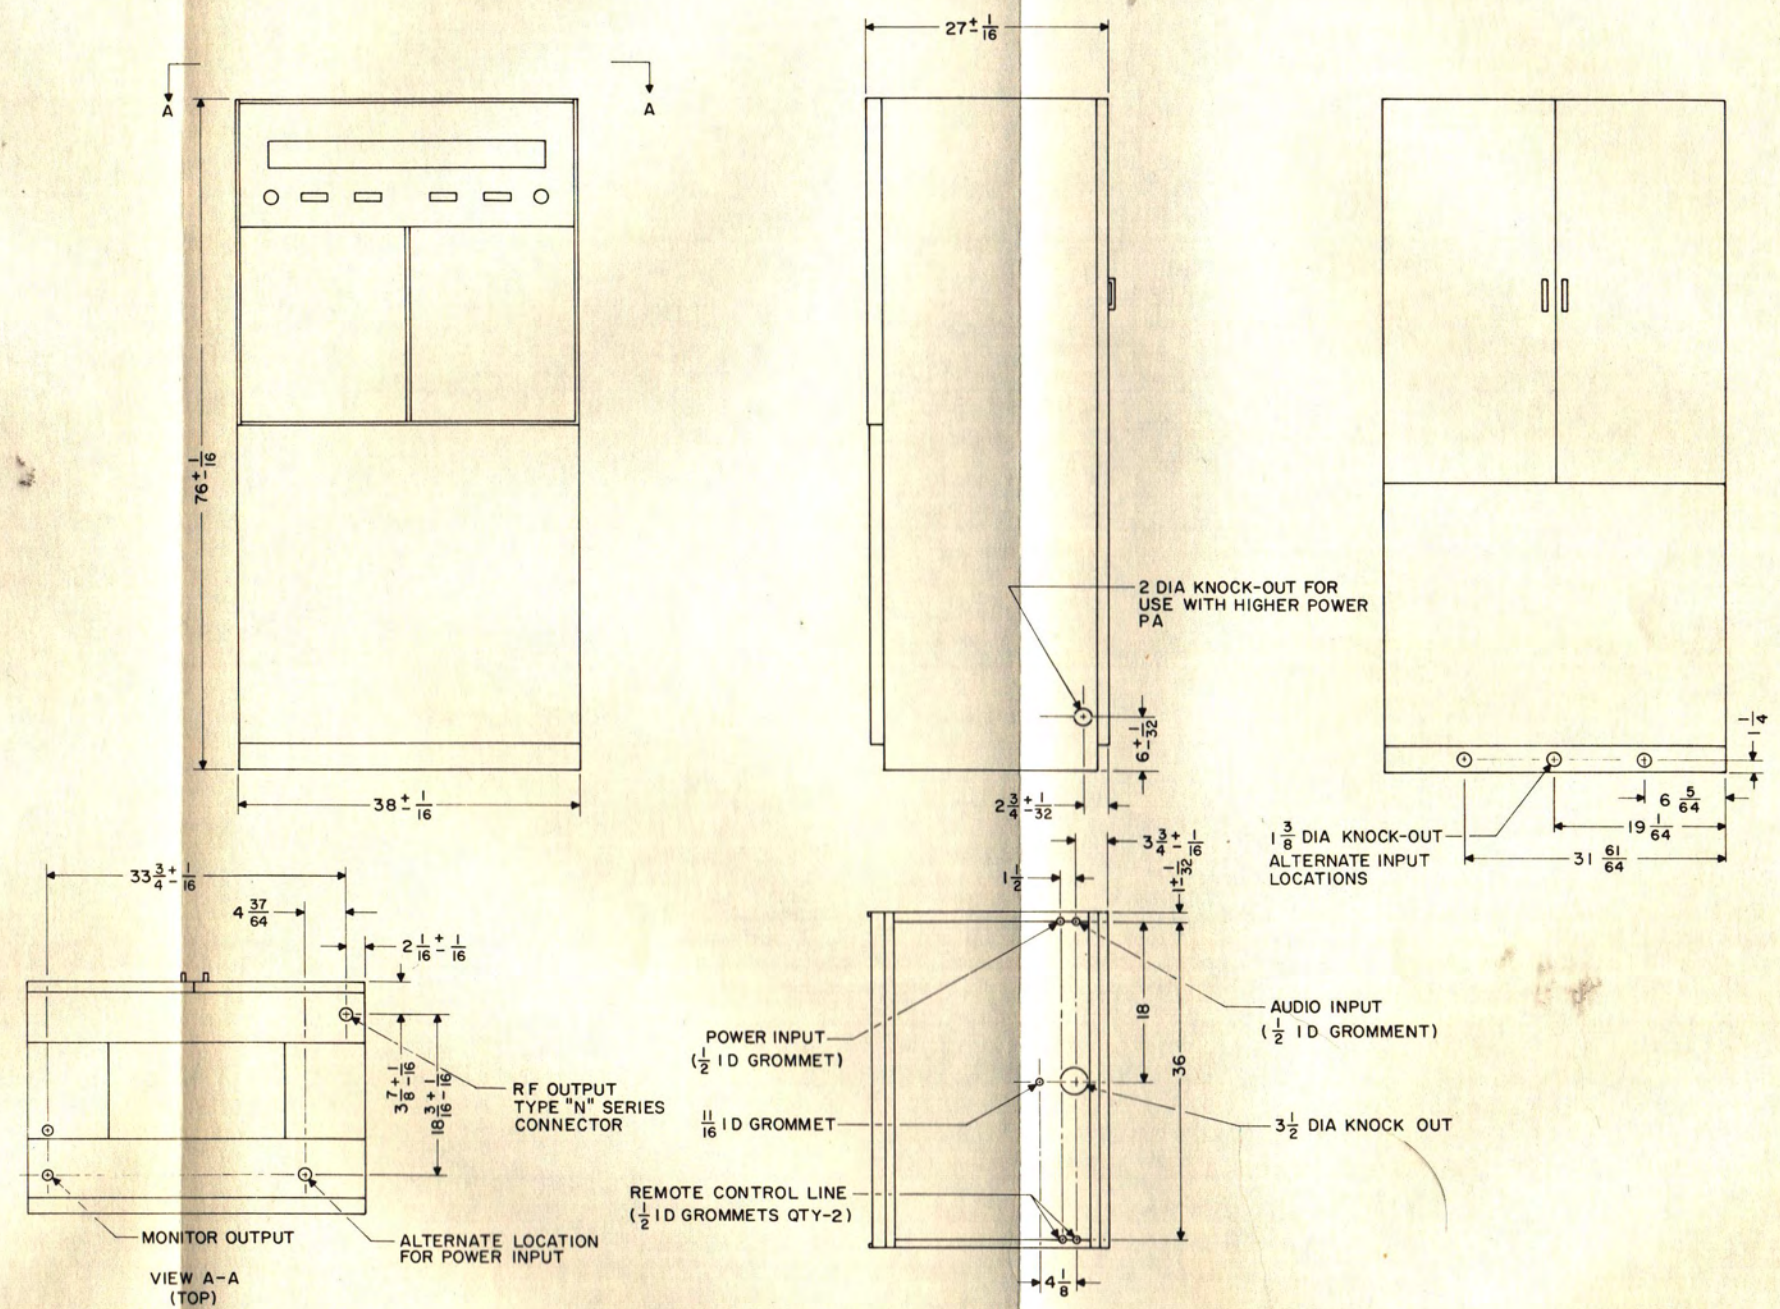

Figure 2-1. Outline and Installation Diagram, 830B-1A 250-Watt FM Broadcast Transmitter
Plan transmitter and wiring placement carefully before starting installation work. Refer to figure 2-1, the transmitter installation diagram. This diagram shows the location of all wiring openings in the transmitter cabinet. As will be noted, several alternate wiring arrangements can be used. Select the combination that best meets the station requirements.
Refer to figure 2-1 for assistance in making the following external connections.
b. Connect the FM monitor to the monitor output on the top of the cabinet. Refer to figure 2-1. Use type RG-58U coaxial cable to make this connection.